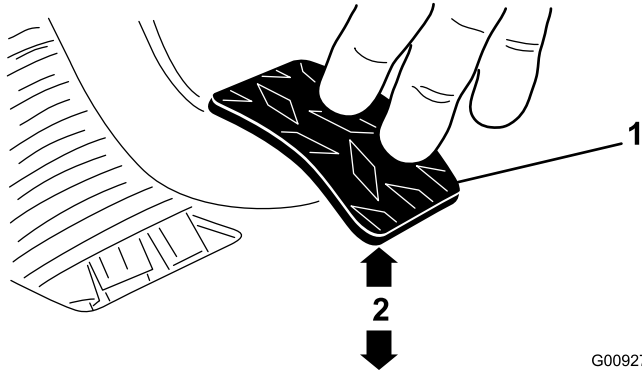

Figure 55
3. Adjust the jam nuts/or ball joint until the back rear edge of the clutch pedal is $3.75'' \pm .12''$ from the top of the floor plate diamond pattern, when a 4 lb. force is applied to the pedal (Figure 55).